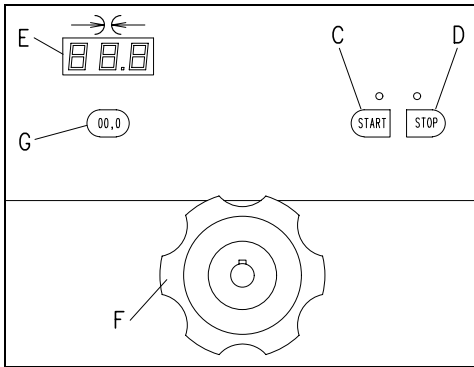

Fig.4
- Press the START button **C**. **Fig.4**